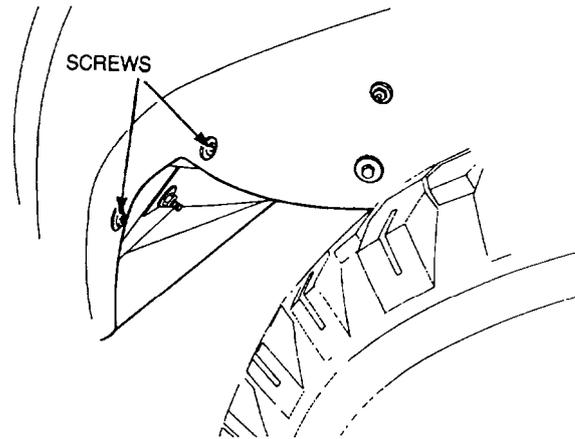

Figure 99 Mudguard to Toe Board Removal
- p. Remove the screws and washers securing the inner guard to the toe board bracket (Figure 99).